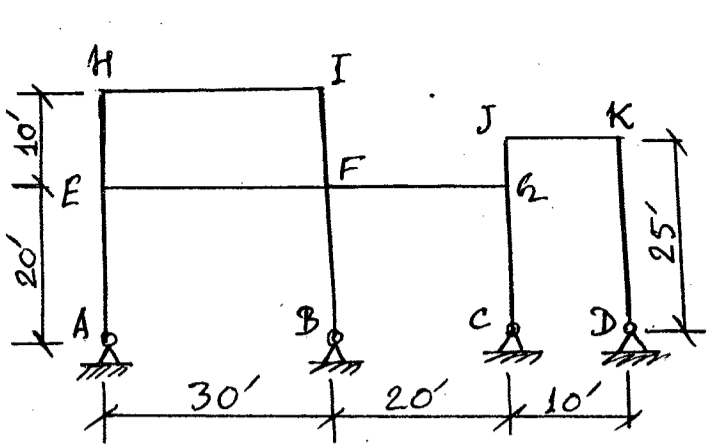

Fig. 8 (Q.no.8)
8. The beams of the building frame shown in Fig. 8 are subjected to uniform vertical dead load of 6 kip/ft and live load of 4 kip/ft. Using approximate method, draw bending moment diagrams for all the beams and columns of the frame. Also determine the maximum possible bending moment in the column BF. EI is constant and same for all the columns. Draw diagrams on compression side. (28)
9. Calculate the vertical distribution of earthquake forces for a 24 m high 8-storied hospital building with equal story height for Dhaka city. The structural system will be special moment resisting frame in steel ($R = 12$). The building will be 30 m \times 30 m in plan. Use equivalent static force method as per BNBC. (28)